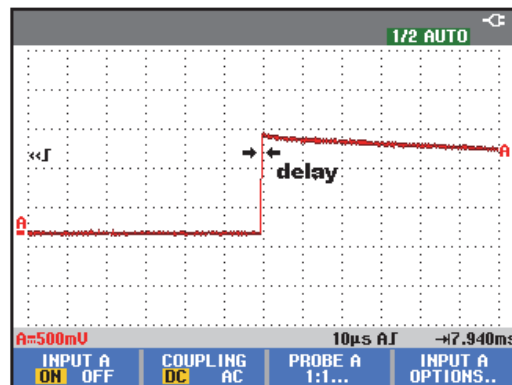

Figure 4-7. Time Base Verification
- d) Use  to move the trace to the left. Once the trigger point is shifted across the left hand border of the display, going off display, the trigger delay time with respect to the first vertical grid line will be indicated in the lower right of the display, see Figure 4-7.
5. Examine the rising edge of the time marker pulse at the height of the trigger level indicator top. Verify that the rising edge is at the center grid line. The allowed deviation is ± 3 pixels, see Figure 4-7.